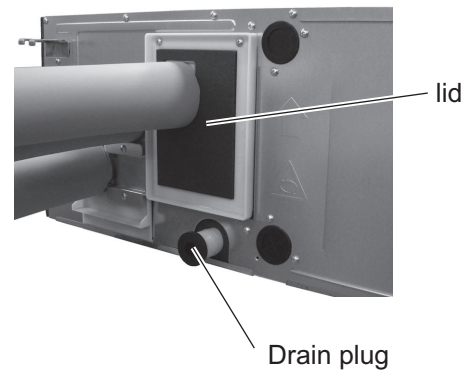

Fig. 5-1
2. Remove the lid (drain pump). (Fig. 5-1)
3. Remove the drain plug and drain the water from the drain pan. (Fig. 5-1)